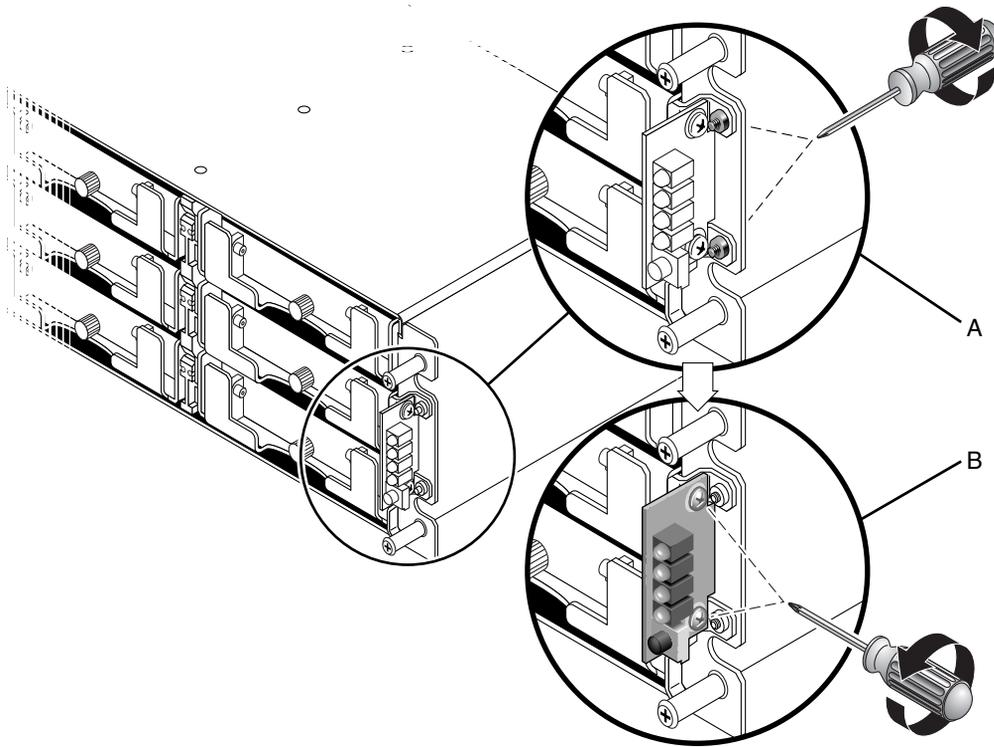

FIGURE 5-2 Detaching the LED Module From the Chassis
1. Remove the two panhead screws (B in FIGURE 5-2) holding the LED module to the bracket.
Note – If the bracket screws (A in FIGURE 5-2) obstruct the LED module screws (B in FIGURE 5-2), the chassis will have to be removed from the rack (if it is a rackmounted array) or the case (if it is a tabletop array) to gain access to the bracket screws and remove them. Two #4-40 x 1/4-inch flathead screws are provided to replace the bracket screws, should they become damaged when removed. For details on removing the cover from a tabletop array, see Section 2.4, “Adding or Removing the Tabletop Cover” on page 2-16.
5. If the flathead screws (A in FIGURE 5-2) were removed, reattach these screws through the chassis flange into the bracket.